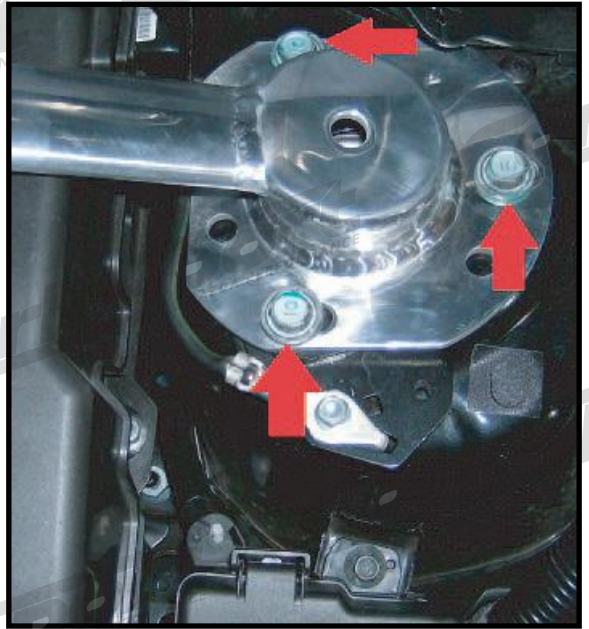

Figure 1a
- a) Remove the 6 14mm strut top bolts. There are three on each side of the vehicle (shown Figure 1a).